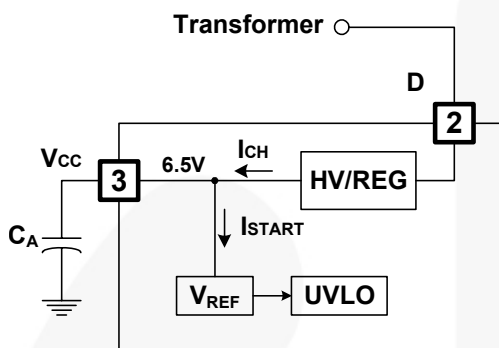
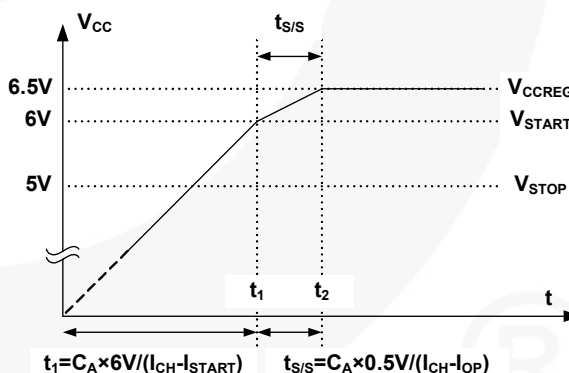

Figure 15. Startup Block
Figure 20. Soft-Start Function
1. Startup and V_{CC} Regulation: At startup, an internal high-voltage current source supplies the internal bias and charges the external capacitor (C_A) connected to the V_{CC} pins, as illustrated in Figure 15. An internal high-voltage regulator (HV/REG) located between the Drain and V_{CC} pins regulates the V_{CC} to 6.5V and supplies operating current. Therefore, FSQ500N needs no auxiliary bias winding.
4. Soft-Start: The soft-start time is tuned by an external V_{CC} capacitor (C_A), which increases PWM comparator non-inverting input voltage together with the senseFET current slowly after it starts. Before V_{CC} reaches V_{START} , C_A is charged by the current $I_{CH-I_{START}}$, where I_{CH} and I_{START} are described in Figure 15. After V_{CC} reaches V_{START} , all internal blocks are activated, so that the current consuming inside IC becomes I_{OP} . Therefore, C_A is charged by the current $I_{CH-I_{OP}}$, which makes the increasing slope of V_{CC} become sluggish. V_{CC} is shifted by 6.0V negatively (it is performed in soft-start block in Figure 2), then $V_{CC} - 6.0V$ is an input of one of the input terminals of the PWM comparator. The drain current follows $V_{CC} - 6.0V$ instead of the V_{FB}^* because of the low-dominant feature of the PWM comparator. The soft-start time can be made long or short by selecting C_A , as described in Figure 20. During $t_{S/S}$, I_{DELAY} is disabled to avoid unwanted OLP. Typically, $t_{S/S}$ is around 4.6ms with 27 μ F of C_A .